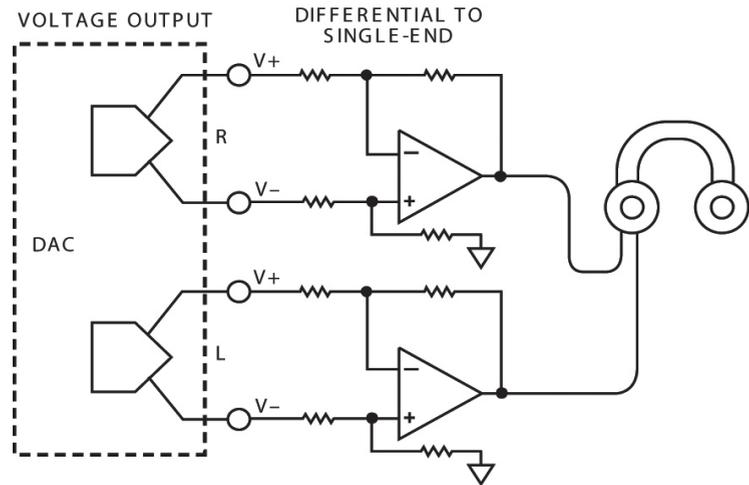

Figure 1: Voltage output configuration
For a voltage-output configuration, the conditioning circuit is a differential amplifier, which converts the differential signals from right (R) and left (L) channels to single-ended; see Figure 1.